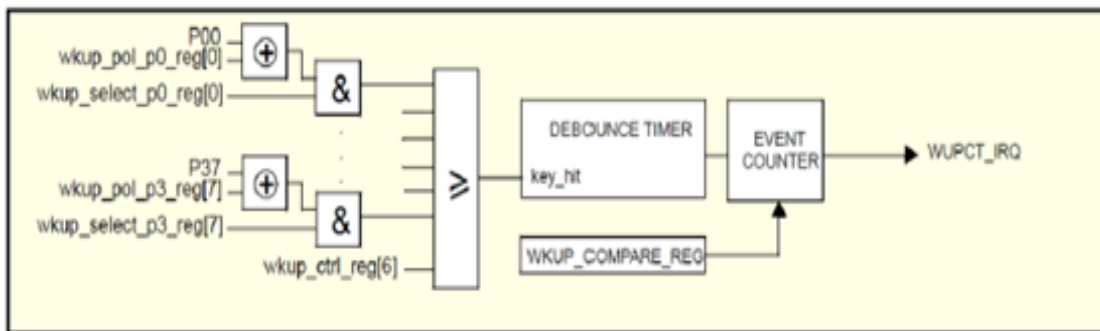

Figure 31 Wake-Up Timer Block Diagram
- The block diagram illustrating the Wake-up function is shown in Figure 31.
A LOW to HIGH level transition on the selected input port, while $WKUP_POL_Px_REG[y] = 0$, sets internal signal “key_hit” to ‘1’. This signal triggers the event counter state machine as shown in Figure 31. The debounce timer is loaded with value $WKUP_CTRL_REG[WKUP_DEB_VALUE]$. The timer counts down every 1ms. If the timer reaches 0 and the “key_hit” signal is still ‘1’, the event counter will be incremented.